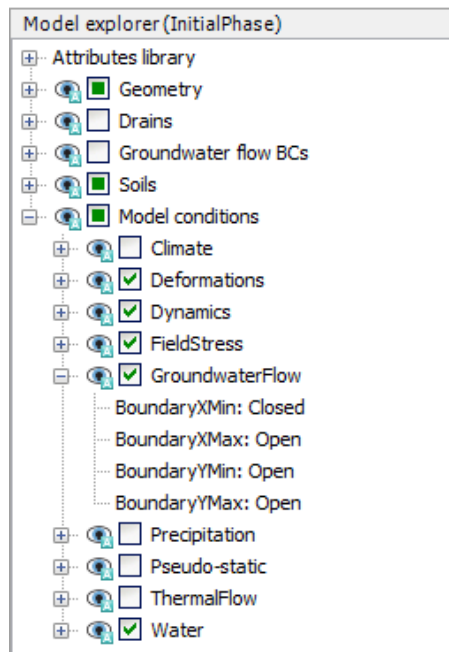

Figure 113: The boundary conditions of the problem
1. Go to the **Staged construction mode** and in the **Model explorer** expand the **Model conditions** subtree shown in Figure 113 (on page 133).